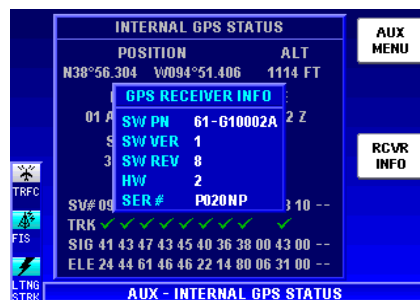

Figure 1-13
5. Press the **RCVR INFO** Softkey to view information such as the GPS receiver software part number, software version, software revision and serial number as shown in Figure 1-13.